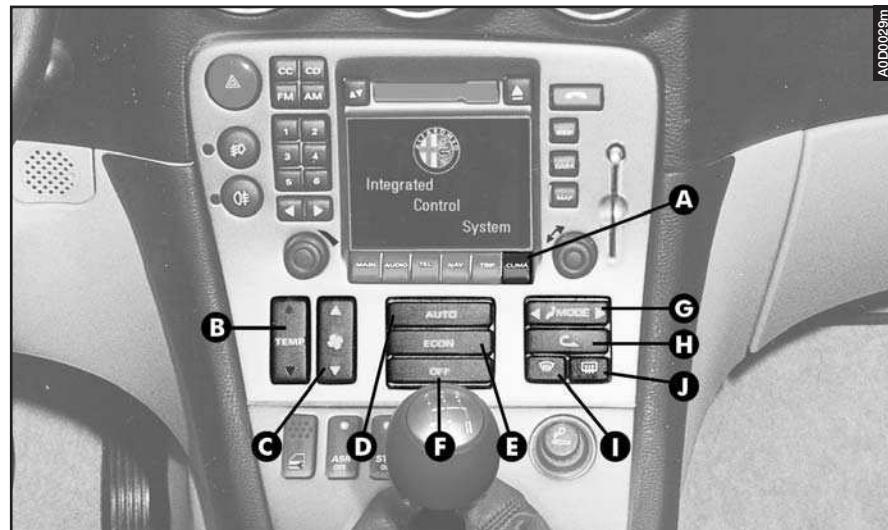

fig. 94
- the "equivalent temperature" required pressing the button (**B**-**fig. 94**);
(**fig. 94**)